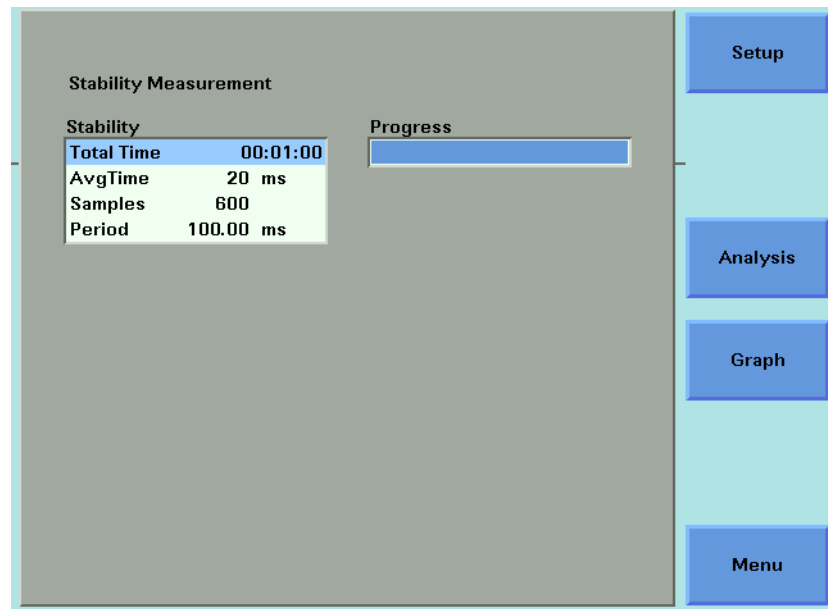

Figure 165 The Logging Measurement Screen - Measurement Completed
- 3 When the logging application completes, you hear a beep, an hourglass appears momentarily. If you are viewing the Logging Measurement Screen the available softkeys change as shown in Figure 165 on page -269.